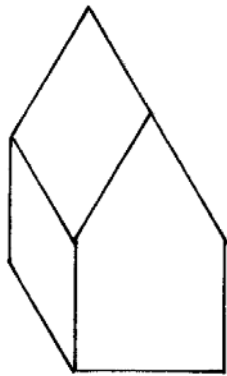

Fig. 1
8. Name the type of roof shown in Fig.1.